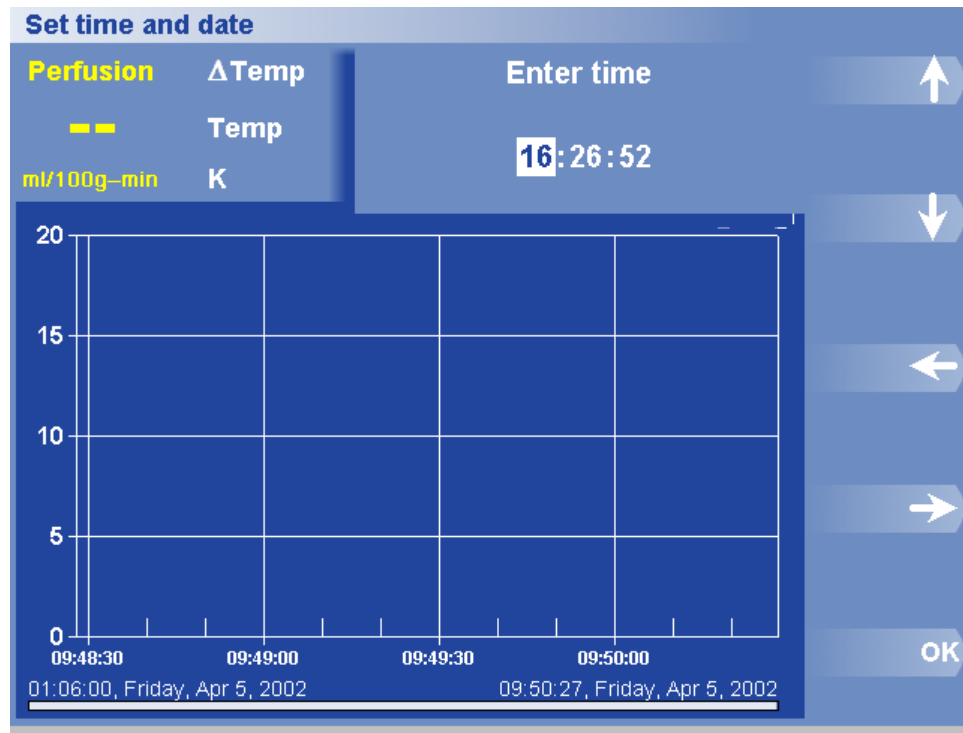

Figure 44. Set Time Dialog Box and Menu
2. Press Set Date/Time > Set Time. The Time dialog box appears (Figure 44).